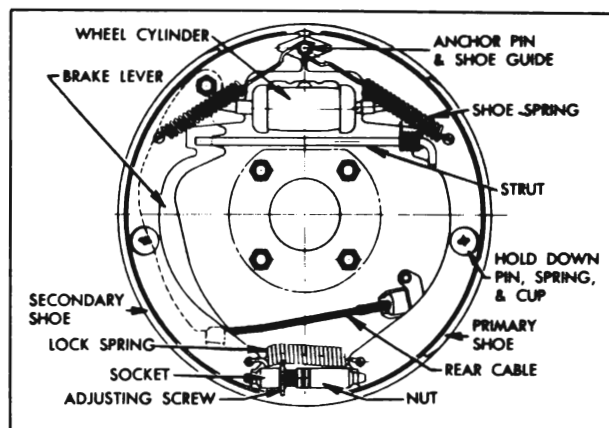

Figure 9-10—Rear Wheel Brake Assembly—Right
2. Unhook shoe return springs from anchor pin, using Brake Spring Remover KMO 526 or large pliers. Remove shoe hold down springs, spread shoes to clear wheel cylinder connecting links, remove parking brake strut (rear only), and remove shoes from backing plate. Disconnect cable from parking brake lever (rear only). See figure 9-10.
3. Separate the brake shoes by removing adjusting screw and lock spring. Remove parking brake lever from secondary brake shoe (rear lever (rear only)). See figure 9-10.
2. On rear brakes only, lubricate fulcrum end of parking brake lever and the bolt with Bendix or Delco Brake Lubricant, or Lubriplate, then attach lever to secondary shoe with bolt, spring washer, nut, and Pal nut. Make sure that lever is free moving. See figure 9-10.
time engaging shoes with wheel cylinder connecting links. The primary shoe (short lining) goes forward. On rear brakes, connect cable to parking brake lever and install strut between lever and primary shoe as installation is made. See figure 9-10.